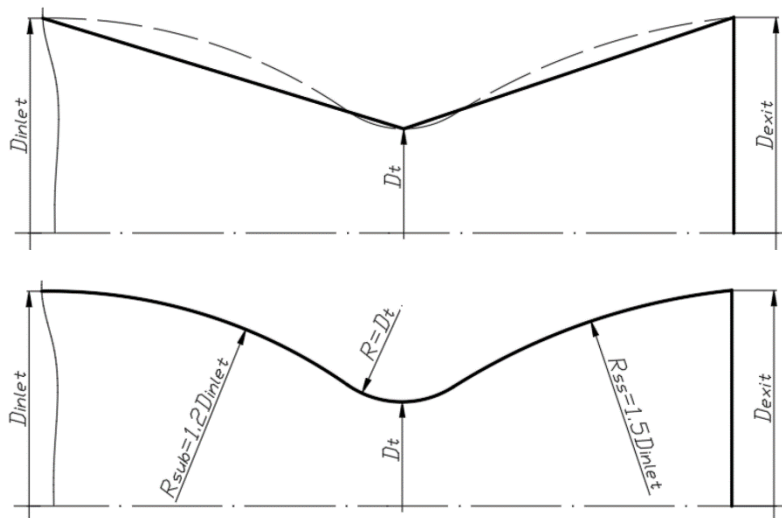

Fig. 5 The Nozzles: conical and bell-shaped (recommended sizes)
4. Calculate the nozzle geometry, starting from initial parameters (point 5), use the nozzle exit diameter equal to combustion chamber diameter $D_{\text{exit}} = D_{\text{diff}}$, (Fig. 5);